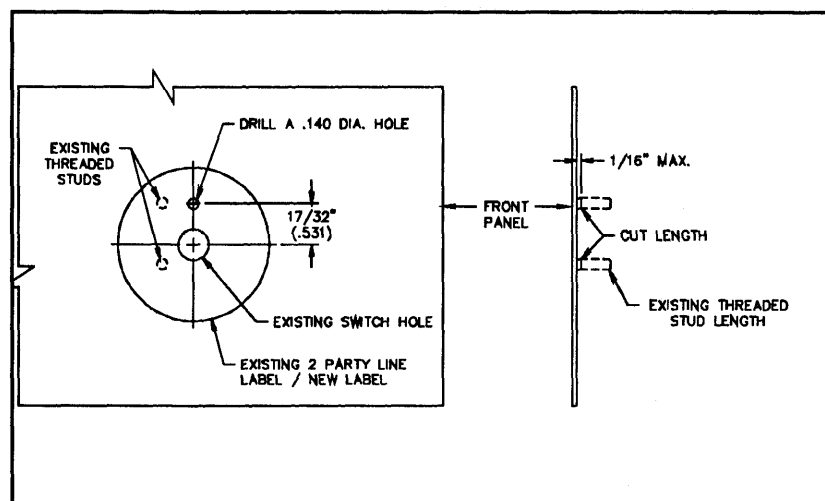

Figure 1. Front Panel Modifications
1. Drill an 0.140" (3.56mm) hole in the front panel as shown in Figure 1.
2. Cut the threaded studs as shown in Figure 1.
3. Attach the 2-party line label on the exterior of the front panel as shown in Figure 1.